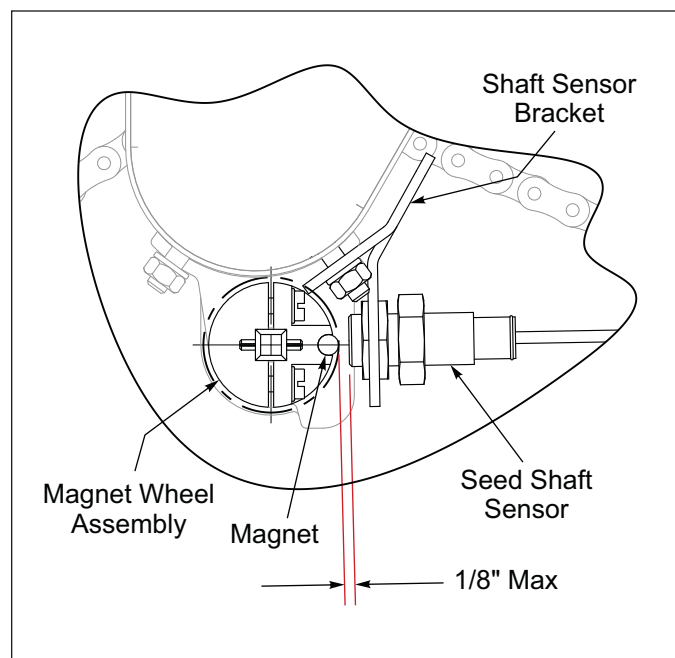

Figure 2-35: Console w/Clutch Control - Front Seed Box Shaft Sensor Detail
6. Slide/Position Seed Shaft Sensor so it is 1/8" from the magnet. **See Figure 2-35.** Tighten both Retaining Locknuts.